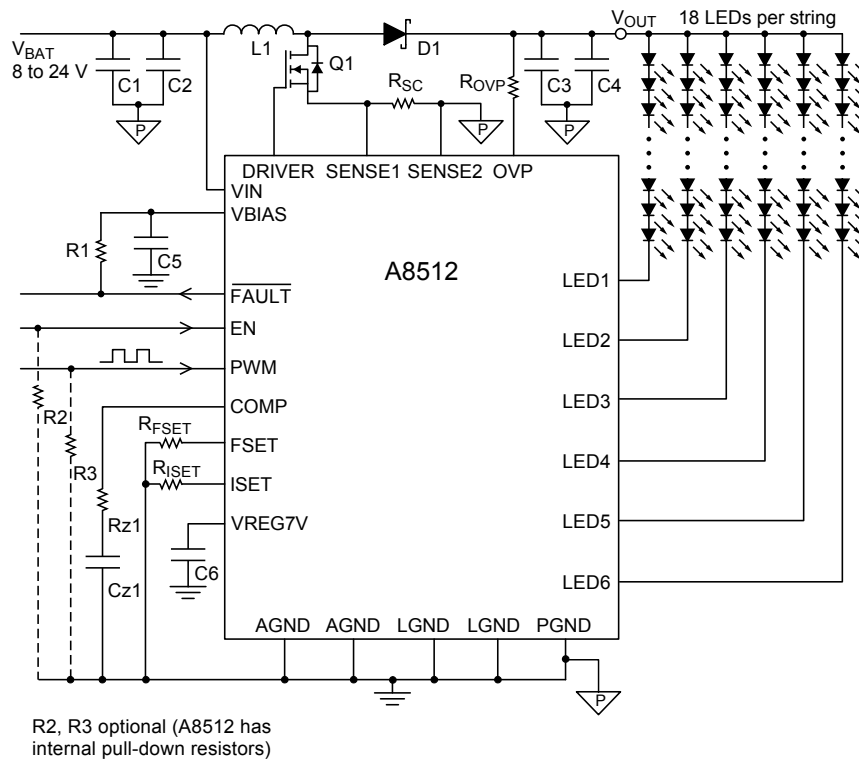

Figure 14. Typical application circuit with single controller; VIN pin tied to  $V_{BAT}$ .
**PCB Layout Guidelines** As with any switching power supply, care should be taken in laying out the board. A switching power supply has sources of high  $dv/dt$  and high  $di/dt$  which can cause malfunction. All general norms should be followed for board layout. Refer to figure 14 for a typical application schematic. The A8512 evaluation board provides a useful model for designing application circuit layouts.